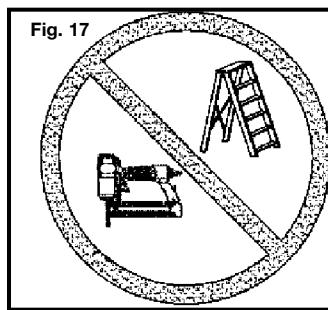

Fig. 17
- **FOR TOOLS USED IN CONTACT ACTUATION MODE, Do not use on scaffoldings or ladders** or for tasks in which changing location involves the use of scaffoldings, stairs, ladders, and the like. Do not use for specific tasks such as closing boxes or crates or fitting transportation safety systems on vehicles and wagons. (Fig. 17)